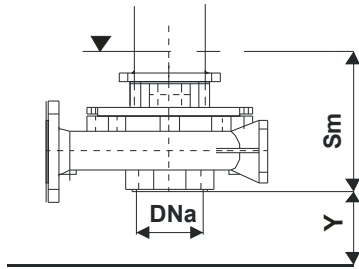

Fig. 2: Data to calculate the priming quota
2. Start the pump only after plunging it into a liquid, to the right deep to grant a proper priming (see tab.1 and fig. 2).